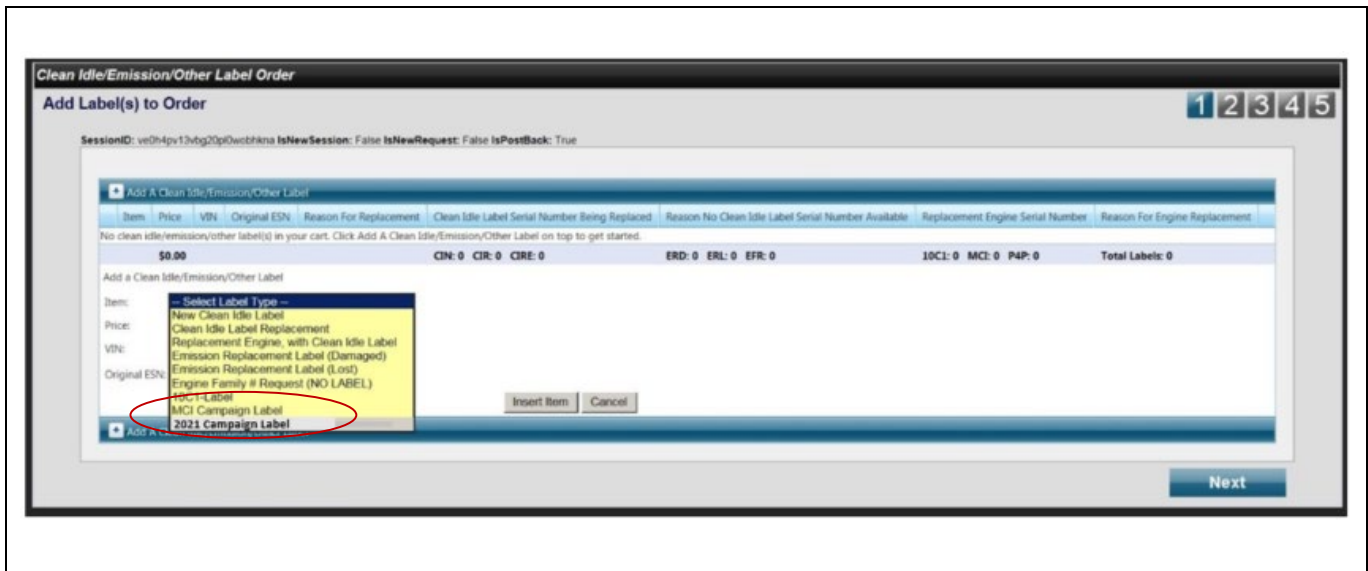

Fig. 11, Emission Label Ordering Process
3. Use the item drop-down menu and select “2021 Campaign Label.” See Figure 11.